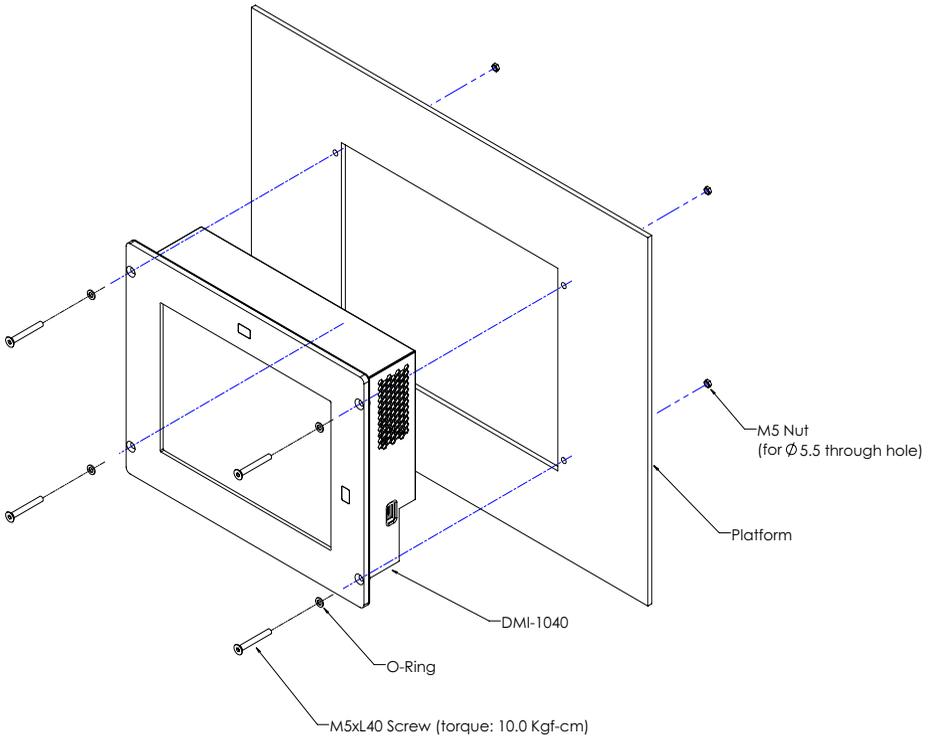

Figure 3-2: Mounting the DMI-1040
3. Place the device into the panel cutout and secure with 4 countersunk M5xL40 screws and O-rings provided as shown in Figure 3-2 (torque: 10.0 Kgf-cm).